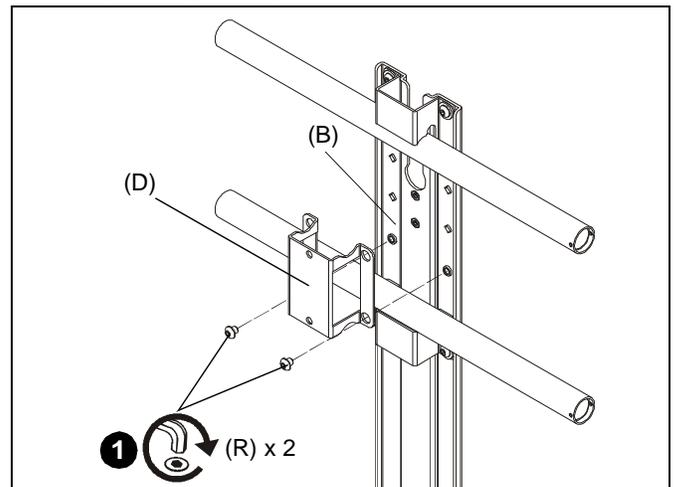

Figure 33
**NOTE:** For cart/ceiling minimum height extension installations, extender box holder (D) was already installed as part of the shelf installation. Proceed to Viewshare Installation Section.
1. Use two 1/4-20 x 1/4" button head cap screws (R) to secure extender box holder (D) to main bracket (B) at the correct location depending on configuration.
- To wall, in between mounting rails. (See Figure 33)